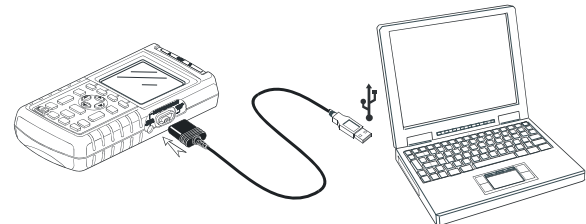

Figure 7-3. Connecting a Computer
- Use the Optically Isolated RS-232/USB Adapter/Cable (OC4USB) to connect a computer to the OPTICAL PORT of the test tool. See Figure 7-3.